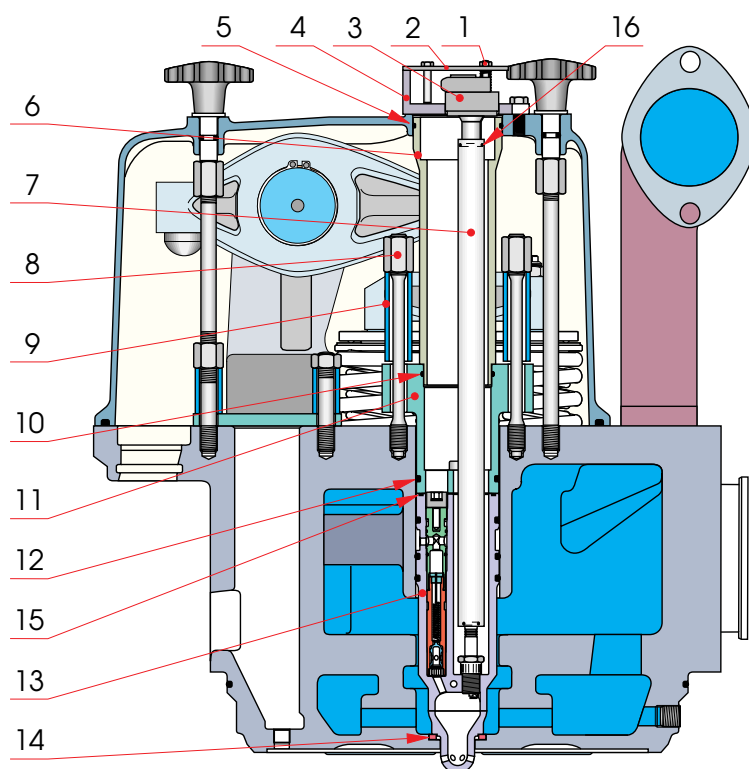
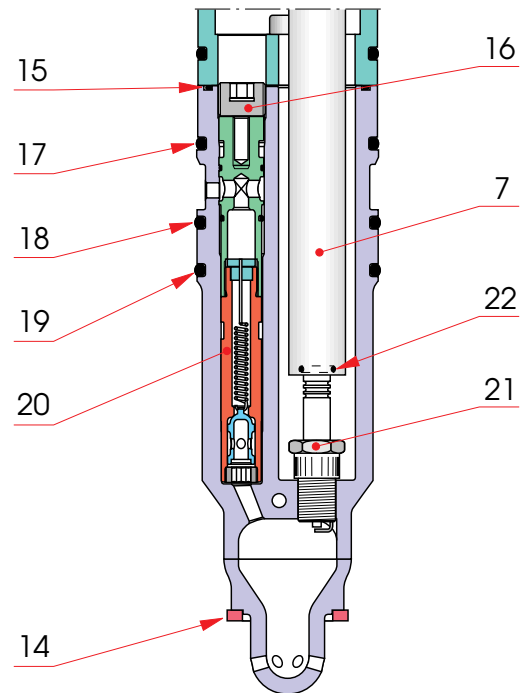

Fig 16-2
Fig 16-3
The prechamber (13) is casted in a high alloy steel with very good high temperature characteristics, see Fig 16-3. The cooling is optimized to give an even distribution of material temperatures, and to provide the best possible operating condition for the spark plug. A sealing sleeve (6) above the prechamber prevents oil from entering onto the prechamber, and the pipe also houses the high-voltage extension for the spark plug.
- 2** Remove the cover plate (2), ignition coil (3) and the spark plug extension (7) and the springs by opening the screws (1).
- 3** Remove the cylinder head cover and the sealing sleeve (6).
- 2 Remove the cover plate (2),** ignition coil (3) and the spark plug extension (7) and the springs by opening the screws (1).
- 3 Remove the cylinder head cover** and the sealing sleeve (6).
- 4 Unscrew the locking screw (16),** see Fig 16-3.
- 5 Remove the non-return valve (20)** by using the special tool 3V83H0175.
- 1 Unscrew the upper body (22)** from the lower body (26).
- 2 Remove the guiding pin (30).**
- 3 Unscrew the plug (28)** in the bottom of the non-return valve.
- 4 Remove the piston (27)** and the spring (29) inside the non-return valve.
The high voltage link between the ignition coil and the spark plug is a stiff, super isolated extension (7), with no joints, see Fig 16-2. This is effectively minimizing the possible disturbances on the ignition system. The spark plug (21) is of a large and durable design, see Fig 16-3.